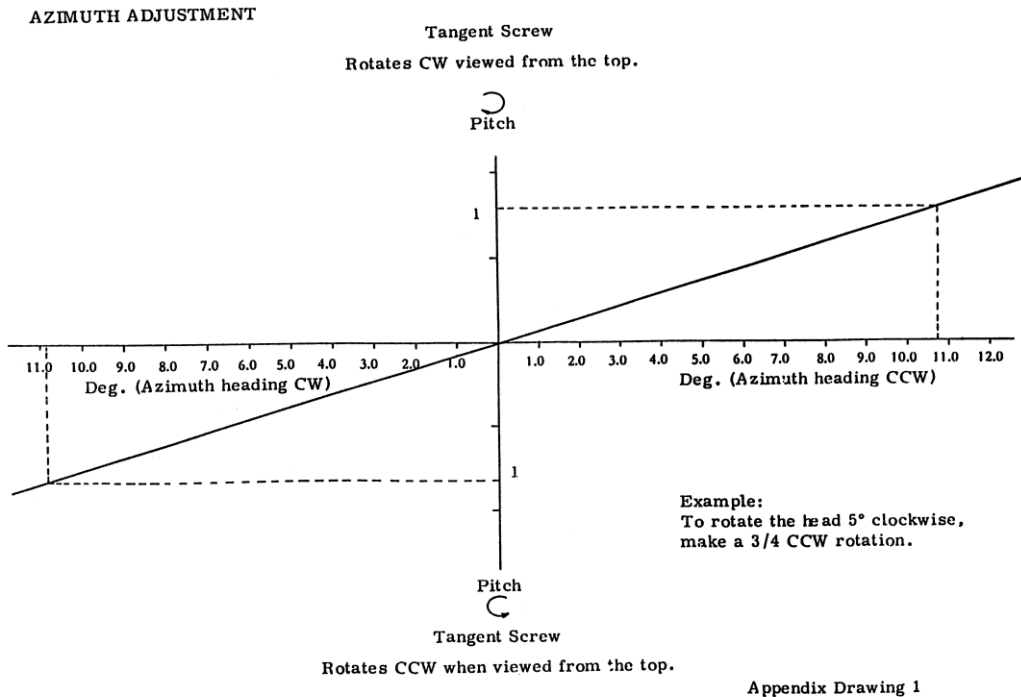

Figure 6-2 Azimuth adjustment
Large errors will require service adjustment by qualified service technicians. The suspension twist wire on the sensitive element needs to be adjusted. Refer Figure 6-2 Azimuth adjustment.
- b. To adjust the level, use the tangent screw of the suspension wire. For the direction and corrective amount, see Figure 6-2.